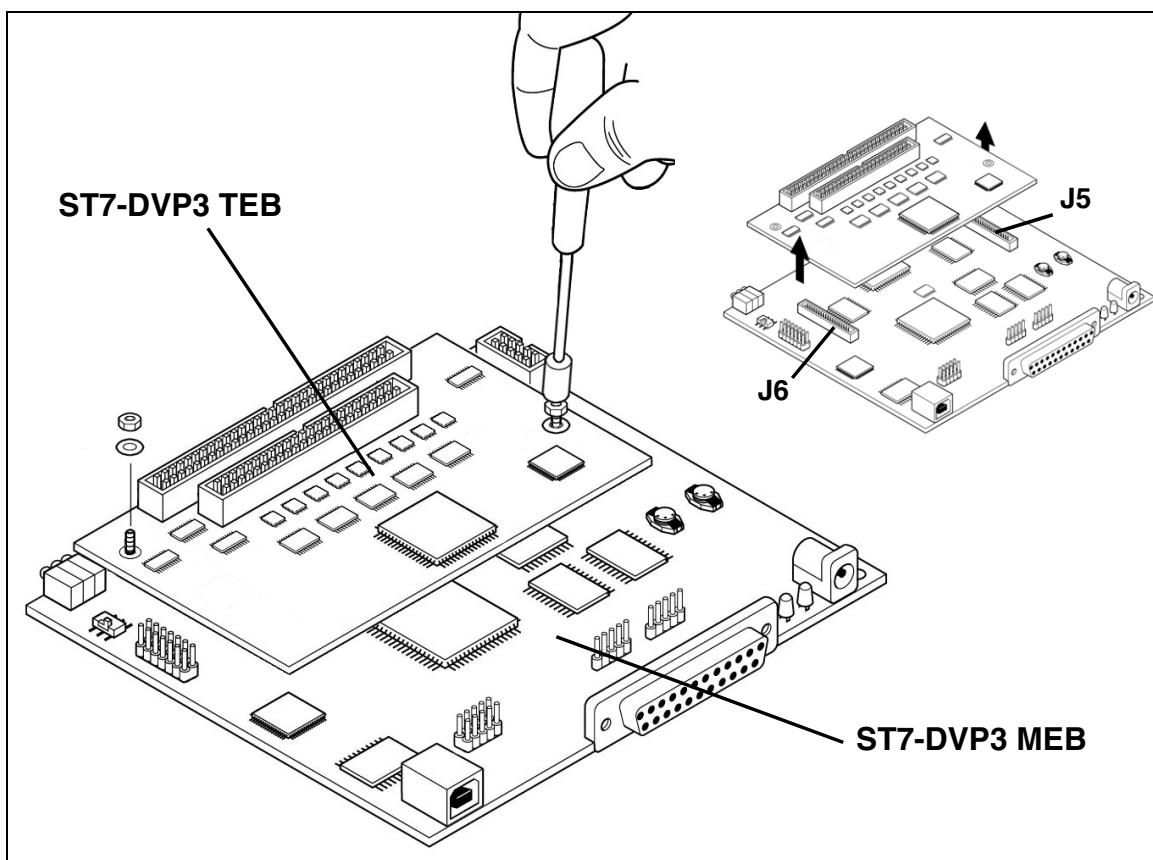

Figure 14: Unscrew and remove the TEB
- 2 Remove the two nuts that secure the TEB to the MEB, as shown in Figure 14.